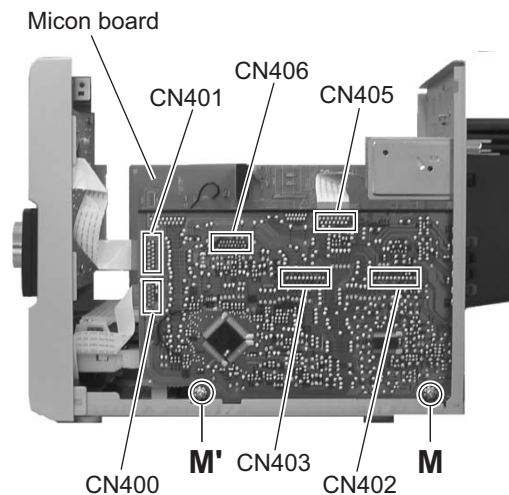

Fig.8
- (2) From the right side of the main body, remove the two screws (**M** and **M'**) attaching the micon board to the main body. (See Fig.8.)
- (3) Disconnect the card wires from the connectors (CN400, CN401, CN405, CN406) on the micon board. (See Fig.8.)
- (4) Disconnect the connectors (CN402, CN403) on the micon board from the power amplifier board. (See Fig.8.)